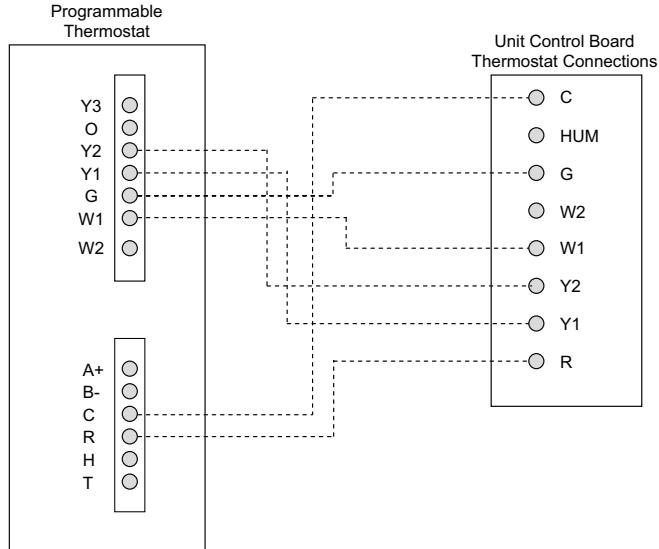
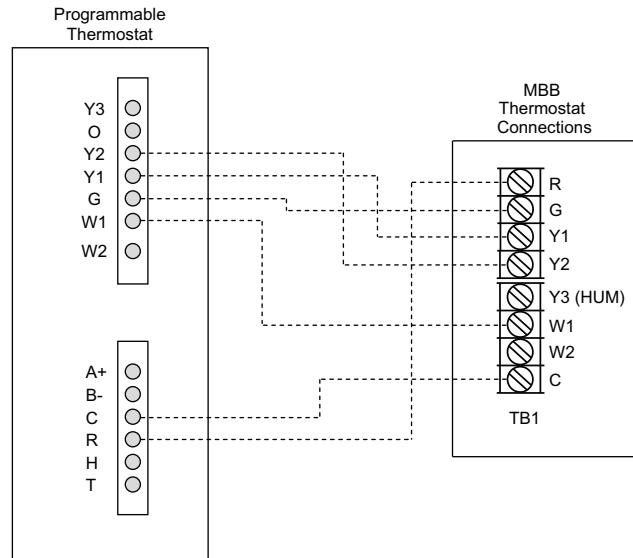

Fig. 40 — Typical Thermostat Connections – Electromechanical Controller UCB
Fig. 41 — Typical Thermostat Connections – SystemVu Controller MBB
5. For electromechanical controller units see Fig. 40 for typical thermostat connections. For SystemVu controller units see Fig. 41. Refer to the installation instructions included with the Carrier Connect Plus thermostat for more information.